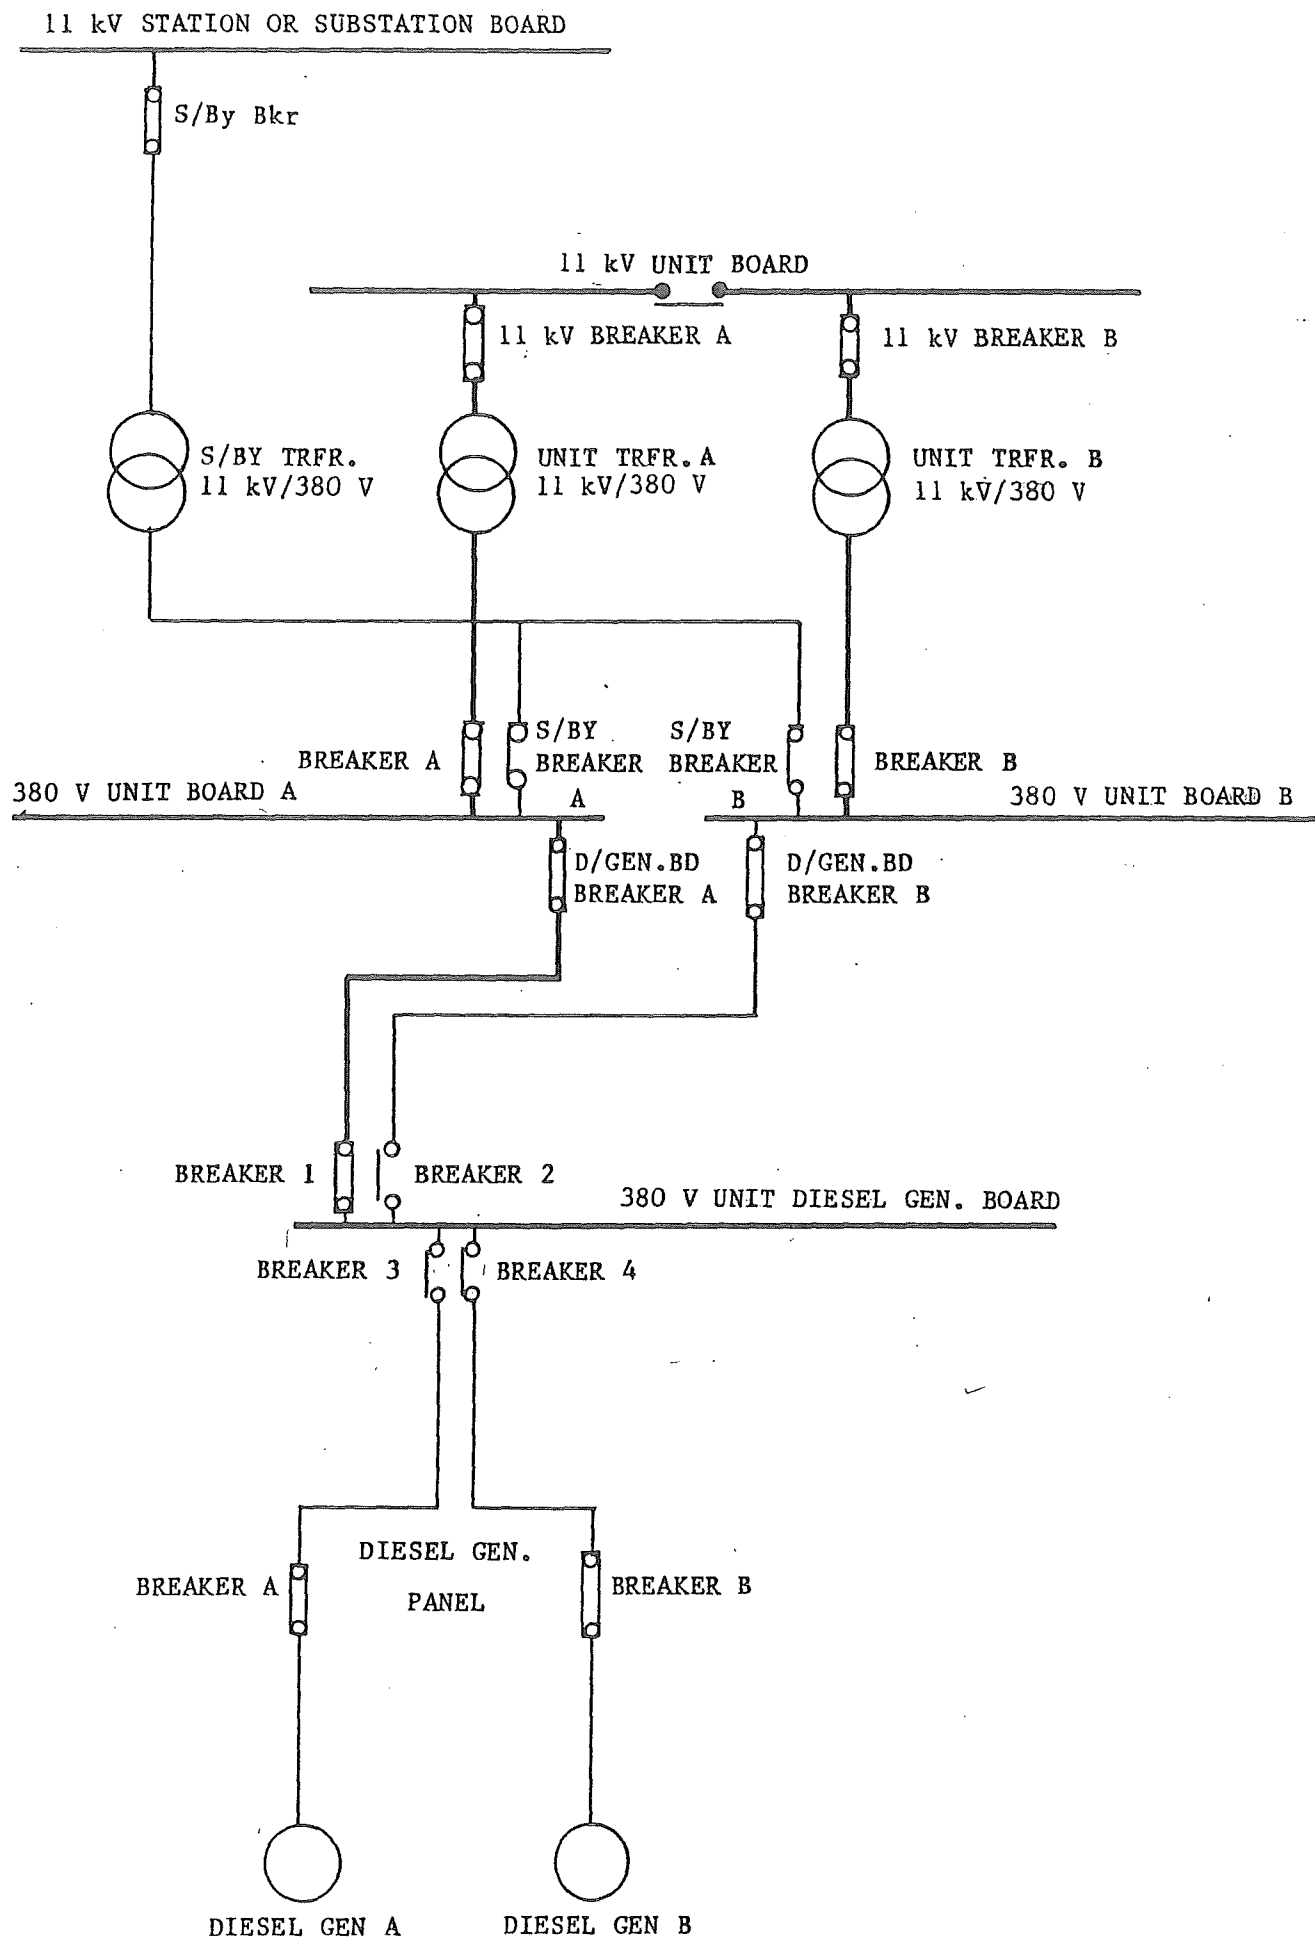

Fig. 62: Normal supplies
2.3 Normal operating conditions (Fig. 62)